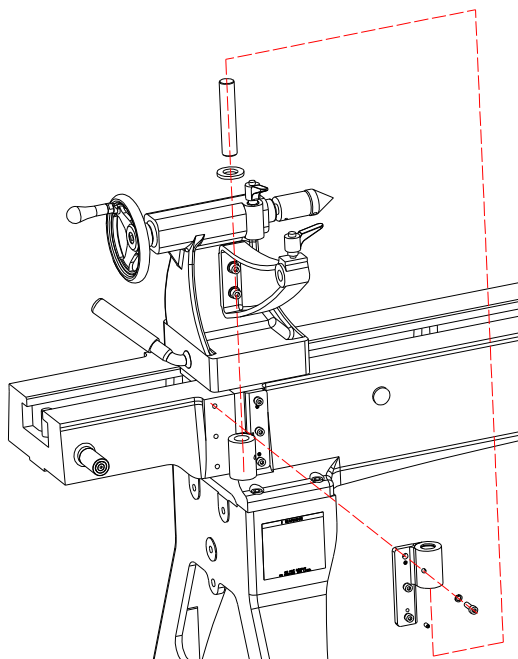

Fig.11
- 5, Rotate the lock handle until the tailstock locked firmly. Now the extension bed is well aligned with lathe bed (Fig. 11)
- 7, Mount the hinge between lathe bed and extension bed with head cap screws, spring washers and flat washer (Fig.11). **Do not** tighten head cap screws at this moment. Use alan wrench to tun the set screws until it hit beds. Then firmly tighten bolts.